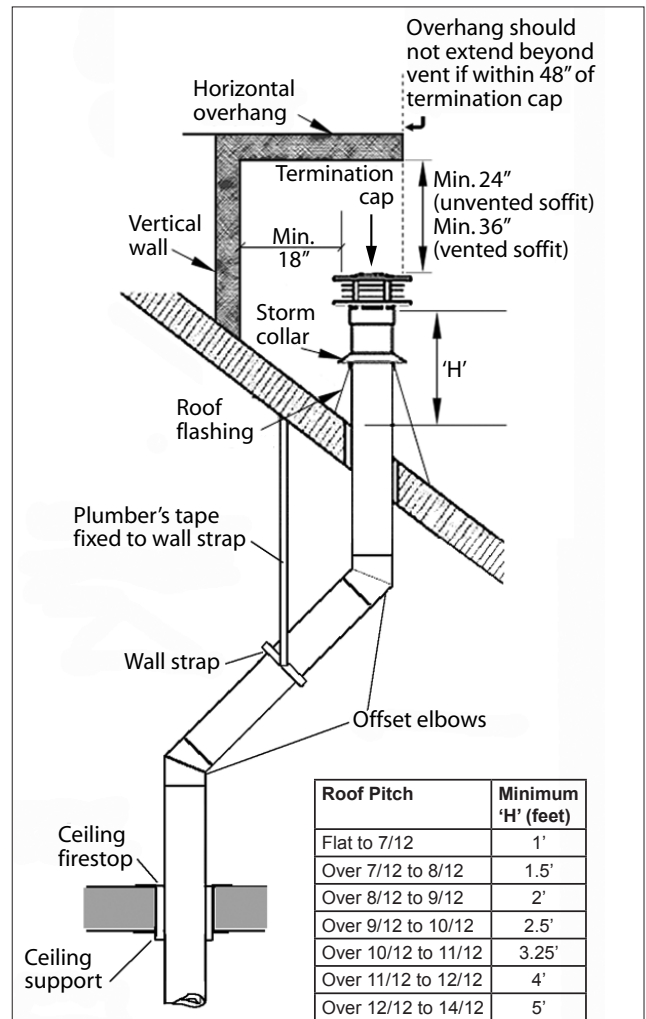

Figure 9a
2. The venting system for these appliances is considered to be a **Special Venting System**. The rule in the *Natural Gas and Propane Installation Code CAN/CGA-B149* requiring a minimum vent height of 2' above any portion of a building within 10' does not, therefore, apply. See figure 9a.